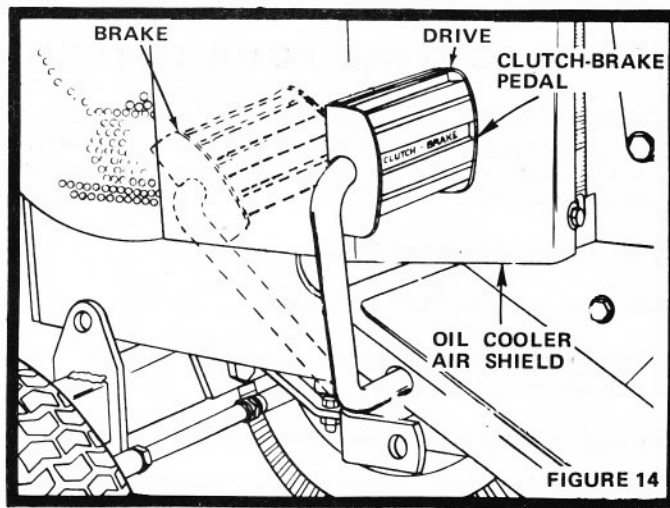

FIGURE 14
5. Push Clutch-Brake Pedal into "BRAKE" position (Fig. 14).
A new V-Belt may stretch after the first few hours of operation. If Clutch-Brake Pedal, in drive position (Fig. 14) is considerably to the front or rear of the vertical position, the V-Belt is out of adjustment and must be re-tensioned.